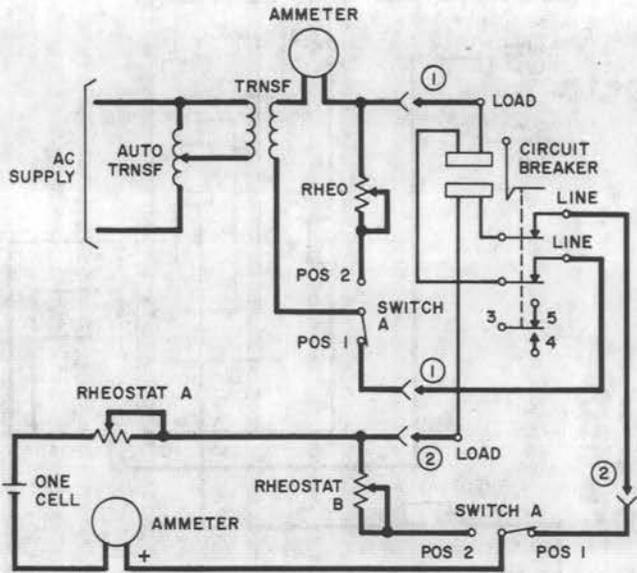

Fig. 26—Checking Circuit—AC and DC Breakers—KS-15813 L3, L14, L33-L37, L39, KS-21596 L2
- (x) **KS-21596:** To check a KS-21596 circuit breaker, proceed in accordance with Methods 2 and 3. In following Method 2, adjust current to 125 percent of the breaker rating instead of 120 percent. Refer to Fig. 26, 33, 34, and 40. Check each pole separately as shown by options 1, 2, and 3.